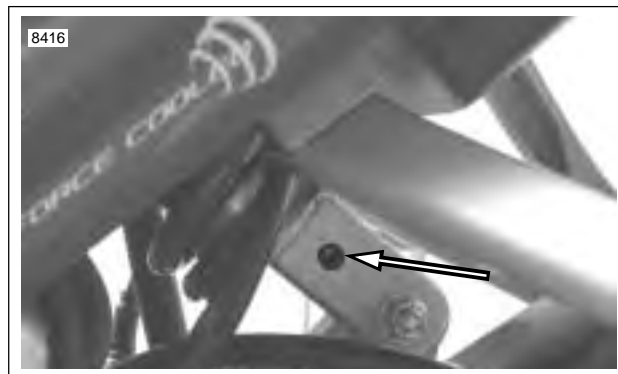

Figure 1-33. Rear Shock Rebound Adjustment
1. See Figure 1-33. Using a screwdriver, turn the slotted dial clockwise until it stops. This is the maximum rebound damping setting.